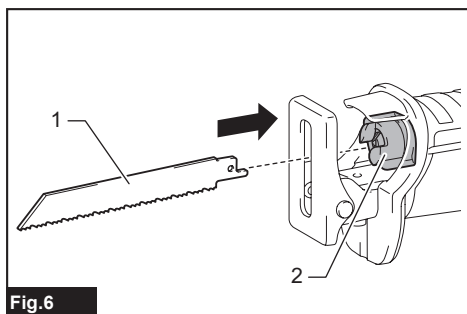

Fig.6
► **Fig.6:** 1. Recipro saw blade 2. Blade clamp sleeve